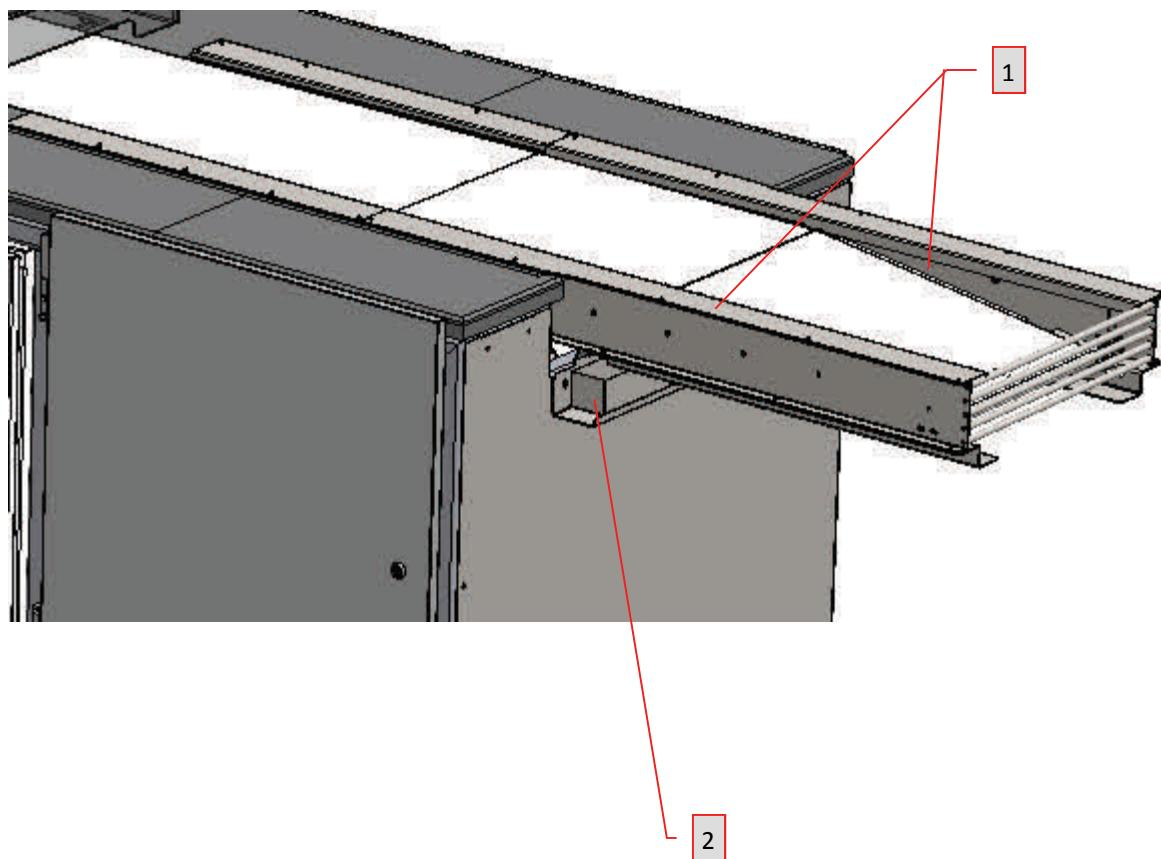

FIGURE 17—Retracting Conveyor Assembly
4. Check for build up on belt. If belt is building up too much adjust the scraper (Figure 17, Page 18) so that the scraper is pressing against the belt more.